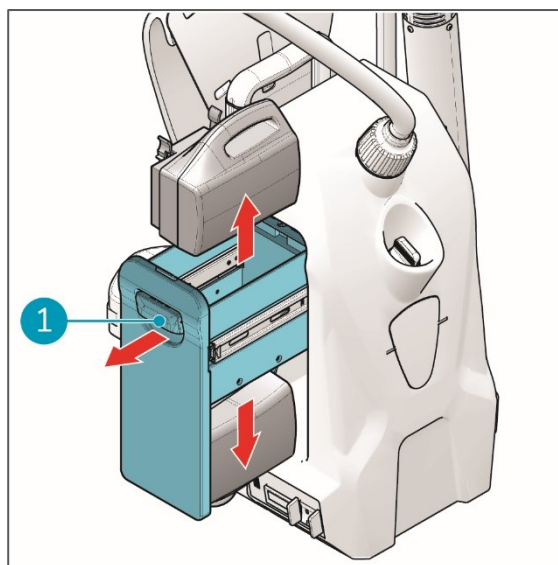

Figure 23
1. Open the battery holder (fig 23, pos 1) at the side of the i-gum®.
2. Remove the battery packs from the top and bottom battery slots (fig 23, pos 1).
3. Close the battery holder (fig 23, pos 1).